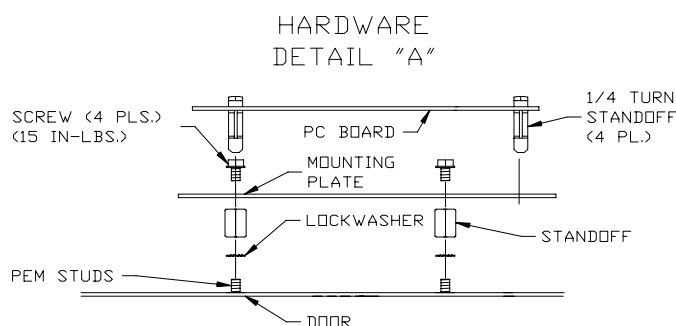

Figure 1
2. Mount the option board to the back of the enclosure door see Figure 1.